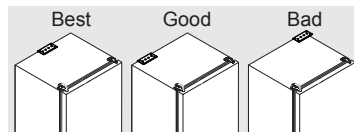

Figure 2
5. Align one of the center holes of the bracket with the stud. If the bracket extends past the edge of the unit, use a different stud or proceed with instruction 6 (see Figure 2).